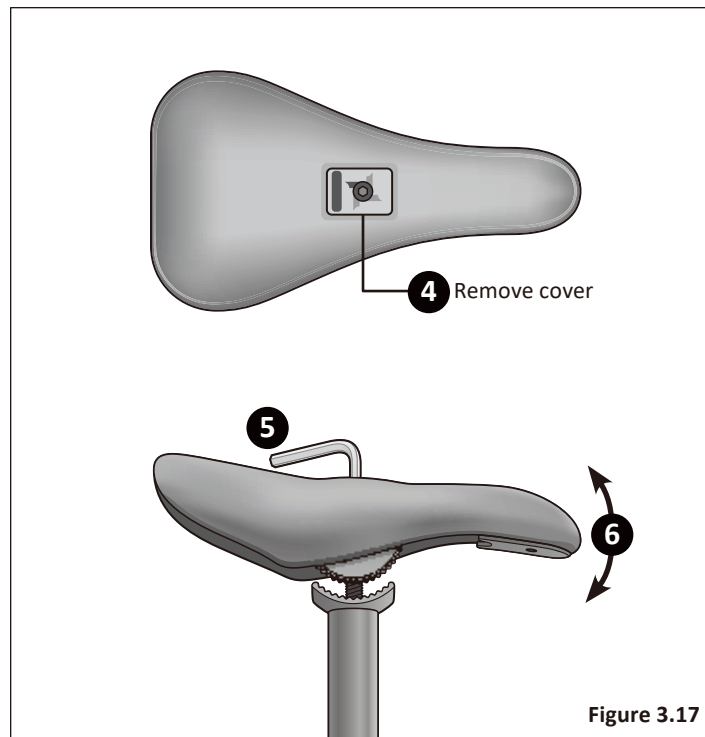

Figure 3.17
- 1 Using a 5 mm Allen wrench, loosen the seat clamp bolt and insert the seat post into the seat tube. **Figure 3.17**